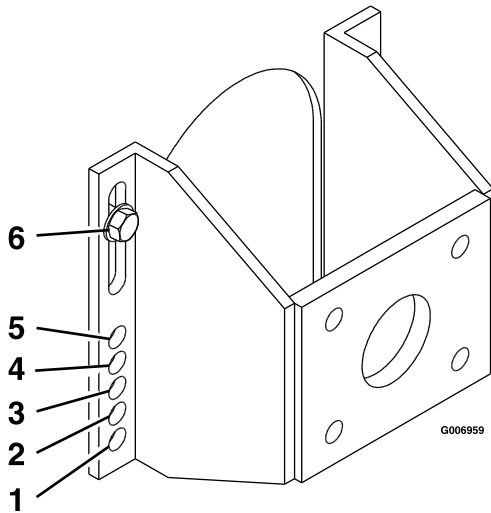
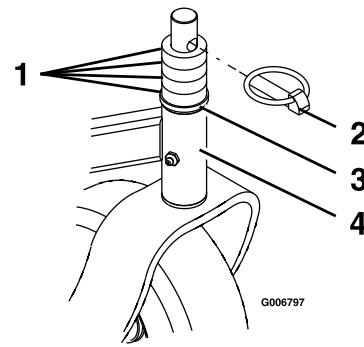

Figure 11
Figure 12
Desired cutting height range can be obtained by adjusting the rear axle and placing caster spacers above or below the caster arm (see Figure 11 and Figure 12 along with the Cutting Height Adjustment Chart).
4. Loosen but do not remove the top two bolts on each hydraulic motor mounting bracket (see Figure 11).
- Remove “quick pin” from one caster and remove caster from hub (see Figure 12).